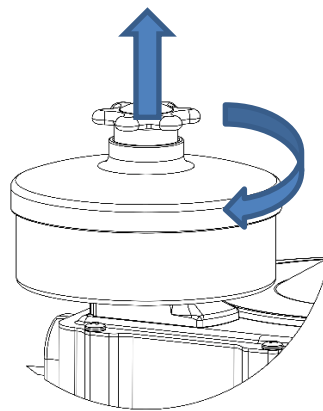

Figure 3
1. To activate SRL mode, rotate activation knob until arrow points from 'DESCENDER' to 'SRL' mode. The knob has a locking position and will resist slight twisting pressure when properly locked. The yellow label will be visible around the base of the knob. *See figure 3.*